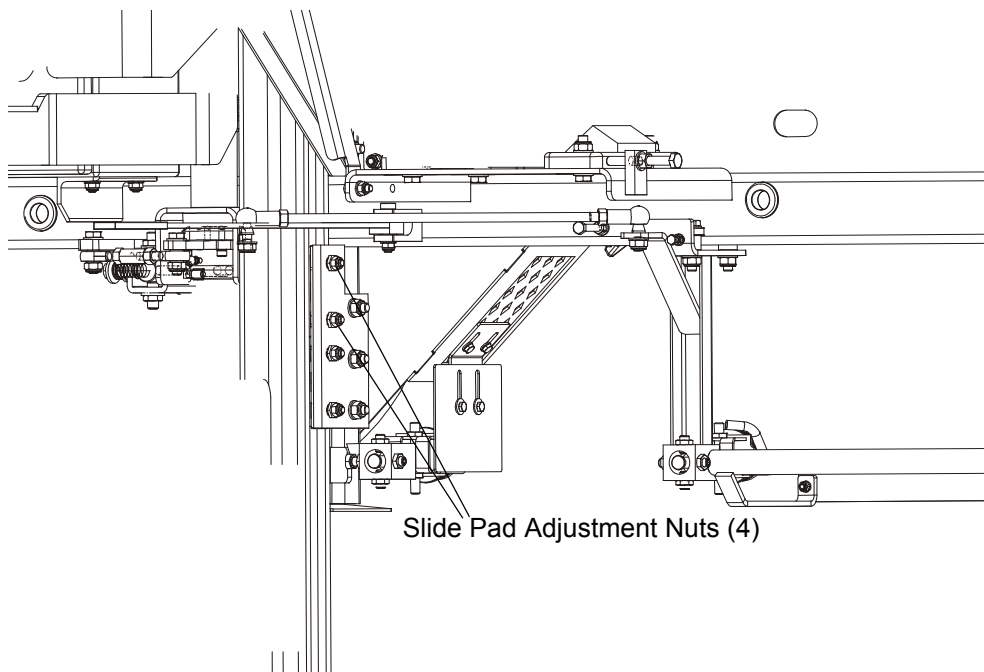

FIG. 3-3
**See Figure 3-3.** Make sure the entire face of each slide pad makes contact with the mast. Use the adjustment nuts shown below to adjust the slide pads if necessary.